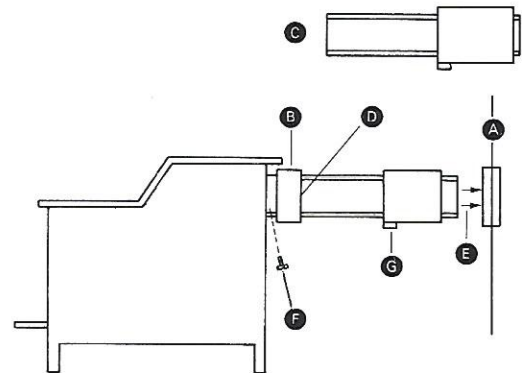

Figure 8
10. Secure adaptor to flue outlet of stove. (See Figure 8.)
11. Secure double wall chimney connector to adaptor. (See Figure 8.)